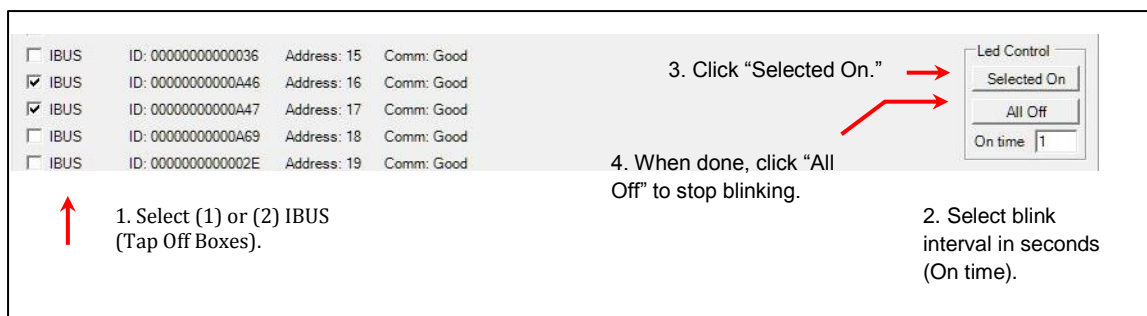

Figure 11 Setup Tab: Identify Tap Off Boxes with Blinking LEDs
During Setup, to help you locate the Tap Off Box associated with an address, you can set the Alarm LED blinking for up to (2) Tap Off Boxes. Check the box(es) for the specified IBUS unit(s) and click **Selected On** in **Led Control** (Figure 11).